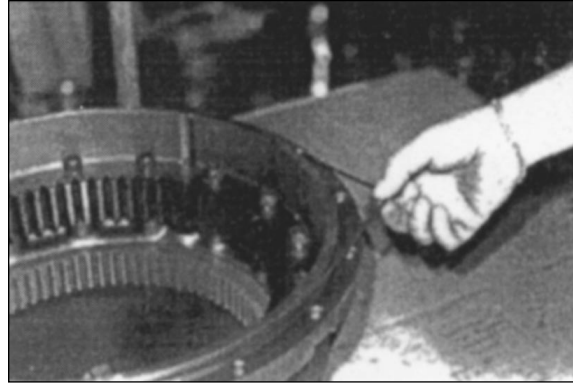

Figure 79
17. Remove O-ring from end cover groove. Figure 79.